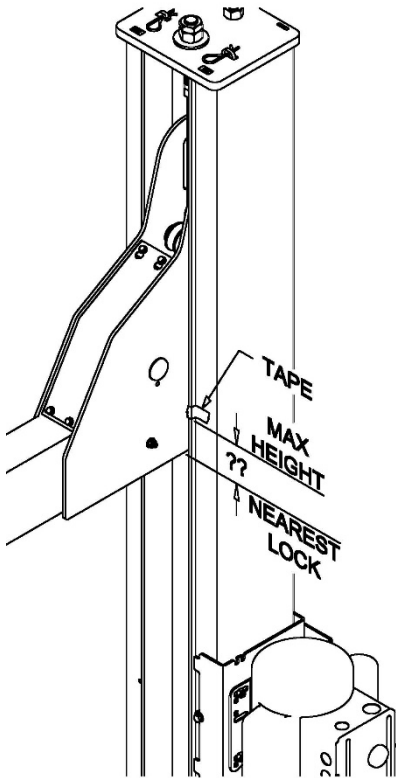

Fig 19 – Lock Clearance Measurement
- 47) If lift is an alignment lift, use the hinge pin and cotter pins to install the wheel stop. See **Fig 19**
- 55) Raise lift to the Max Height and place a piece of tape on the power column lined up with the bottom of the crossbeam. Lower the lift into the nearest lock position and measure from the bottom of the crossbeam to the tape, **Fig 19**.